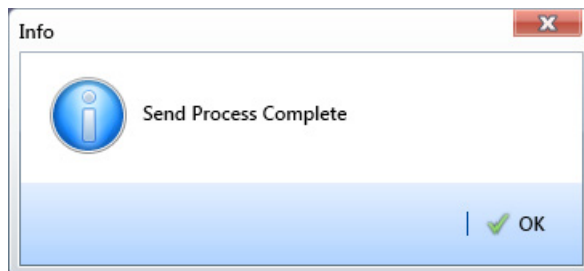

Figure 13-15. Send Process Complete
- 12 Click  **Send**. When a message displays confirming the send process is complete, click  **OK** to close the message (Figure 13-15).